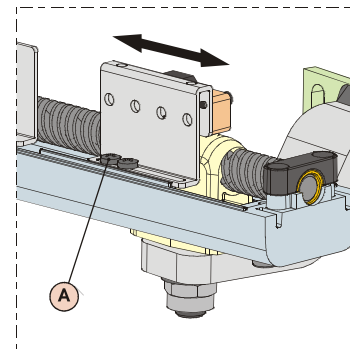

Fig. 24
- 3) Loosen the fastening screws of the limit switch to adjust, Fig.24 ref.A.